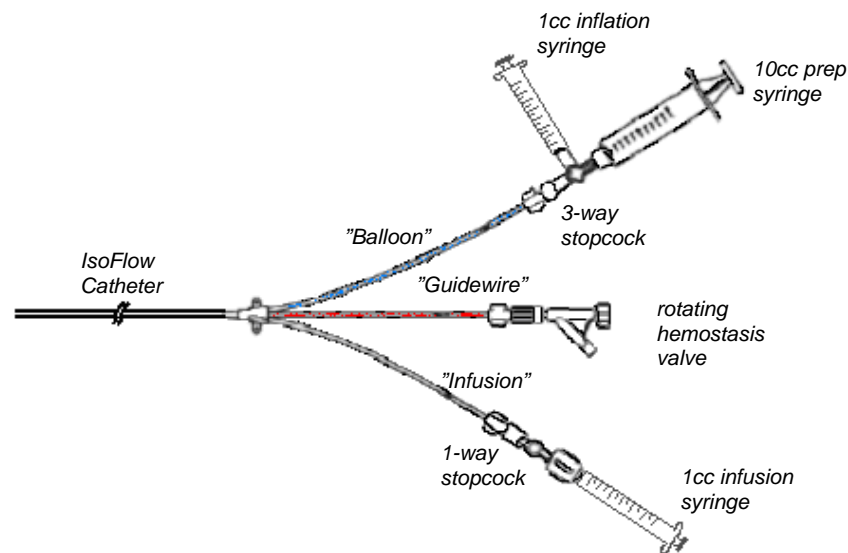

Fig 1. IsoFlow™ Infusion Catheter System components
The Vascular Designs IsoFlow™ Infusion Catheter System includes the components shown in Fig 1.
7. Locate and fill a standard 10cc syringe (not provided) with about 5cc of balloon inflation media and attach syringe to 3-way stopcock on "Balloon" port as indicated in Fig 1.
19. Fill the 1cc infusion syringe (provided) with the infusion fluid mixture and attach the syringe to the 1-way stopcock on the "Infusion" port as indicated in Fig 1.